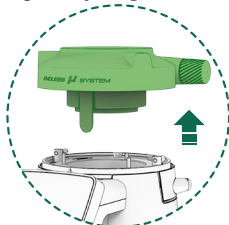

Fig. 5
12.3.4. Pull up holding the grind regulator (16), to access the grinding cavity, clean the interior with the help of a brush or vacuum cleaner and remove any coffee residue from the grinding cavity (Fig. 5).